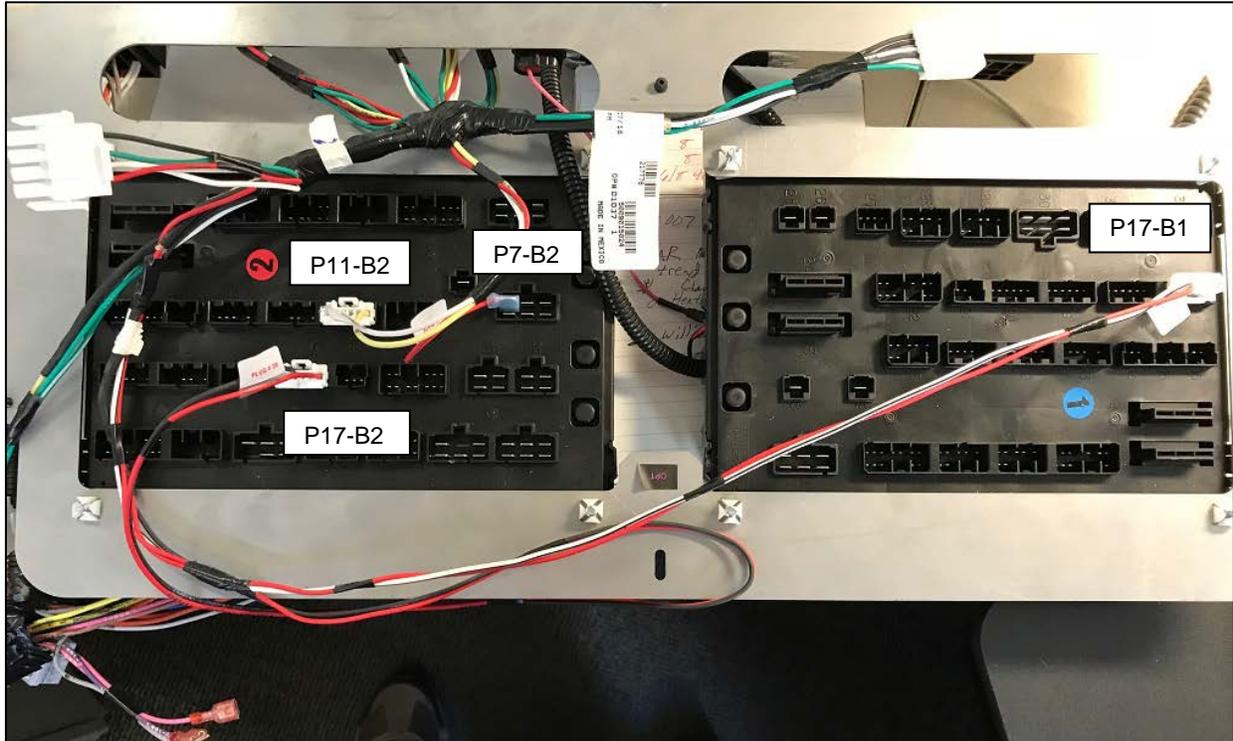

Figure 7: Rear of PC Boards Showing Connections, Only
7. Remove the existing harness and install the new harness TBB 217778. The old and new harnesses have the same connection points on the back of the boards and connecting harnesses. **Figure 7** shows the locations on the back of the PC board. The remaining plugs on the harness will be connected to harnesses that are not plugged into the PC boards.